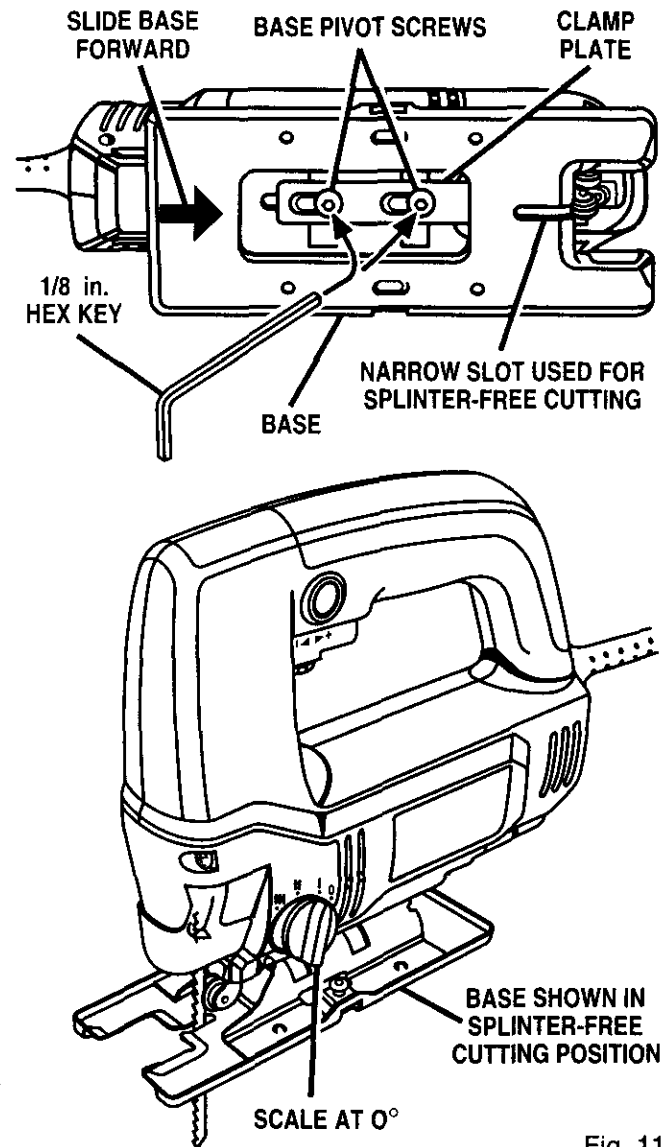

Fig. 11
See Figure 11.
- Using the 1/8 in. hex key provided, loosen base pivot screws and slide base forward. See Figure 11.
Note: Clamp plate should always be in full rear position, as shown in Figure 11, unless vacuum attachment is in use.